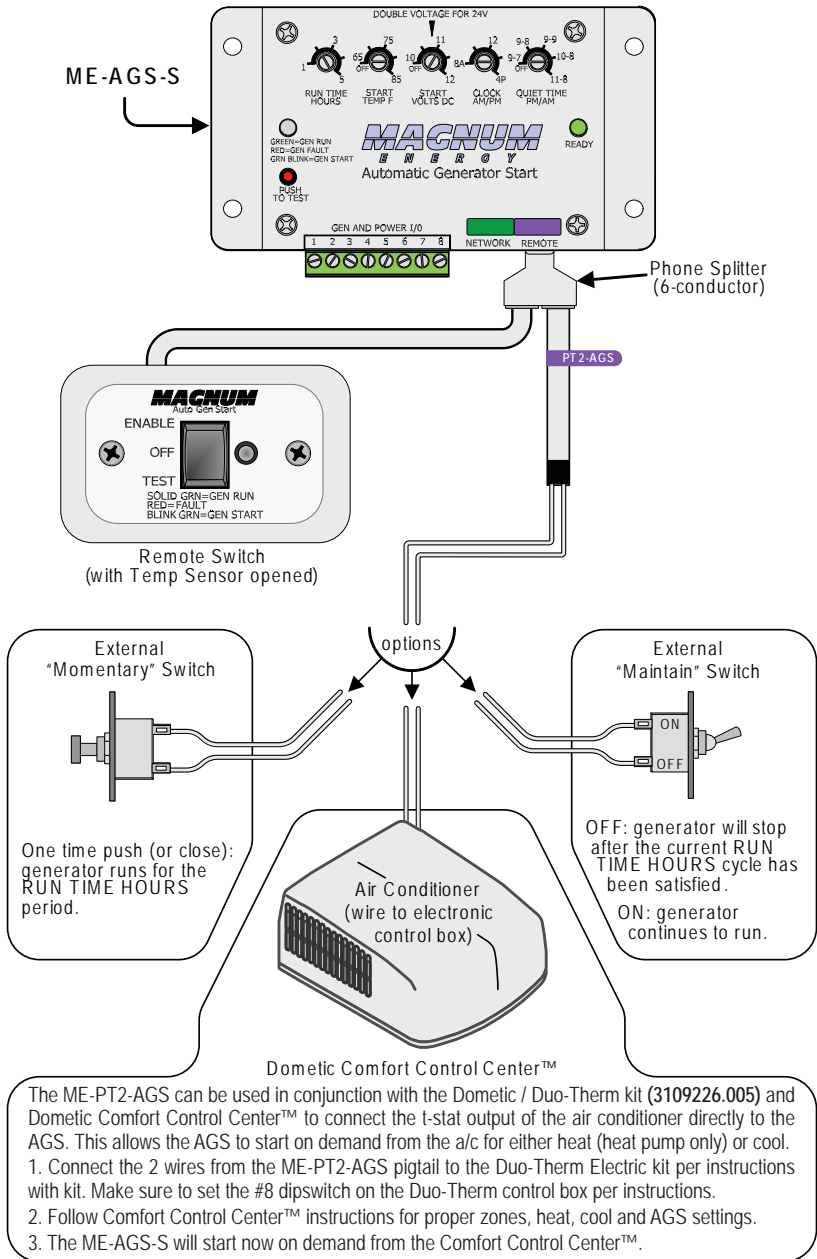

Figure 5, ME-PT2-AGS to ME-AGS-S Installation
- Refer to figure 5 for the following steps to install the ME-PT2-AGS: